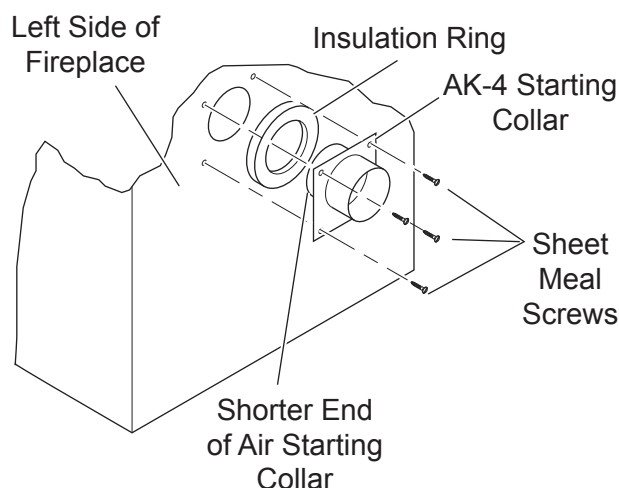

Figure 21 - Attaching Outside Air Starting Collar and Insulation Ring to Left Side of Fireplace
3. Place the starting collar (4") into the hole on the side of fireplace. Fasten it in place with the four sheet metal screws provided. *See Figures 21 and 22.*